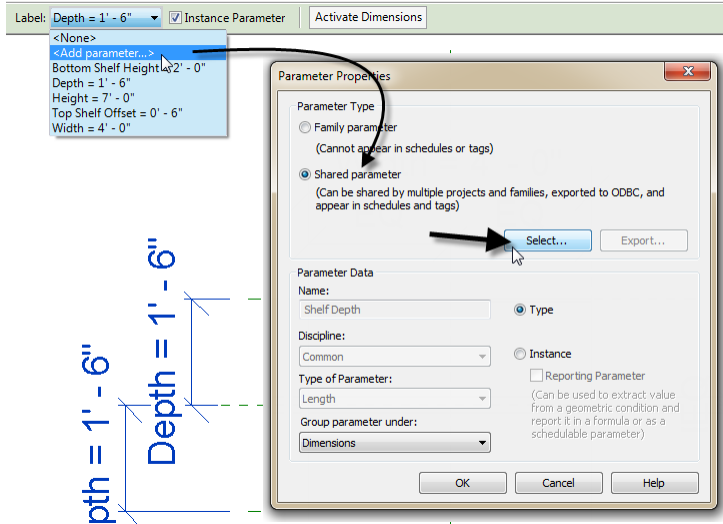

Figure 13—Shared Parameter added in a Family file
- In the “Parameter Properties” dialog, choose Shared Parameter at the top and then click the Select button. Choose the Shelf Depth parameter and then click OK (see Figure 13).